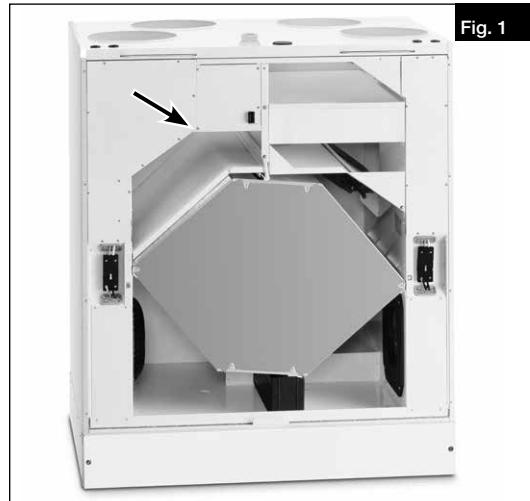

Fig. 1
2. Loosen all screws in the cover panel (see Fig. 1).